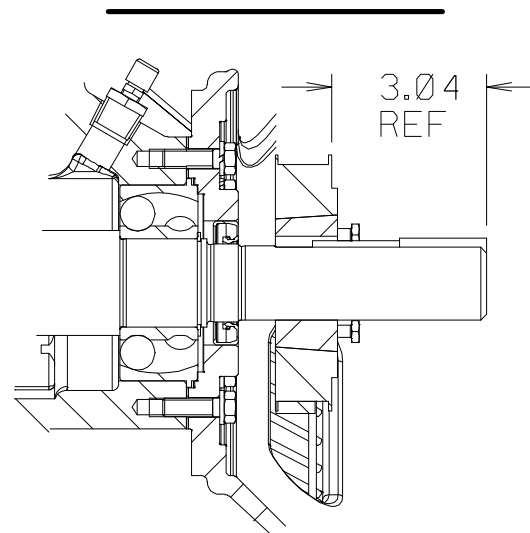

Figure 11. Drive Sprocket Positioning
Install the key (30, Figure 4) in the shaft keyway, making sure to leave room in the keyway for the drive key (31, Figure 4). Install the bushing (16) and sprocket (17) on the shaft to the dimension shown in Figure 11.
*When properly installed to the dimension shown in Figure 11, the key (30, Figure 4) **will not** extend fully through the bushing. This is an acceptable fit for this application.*